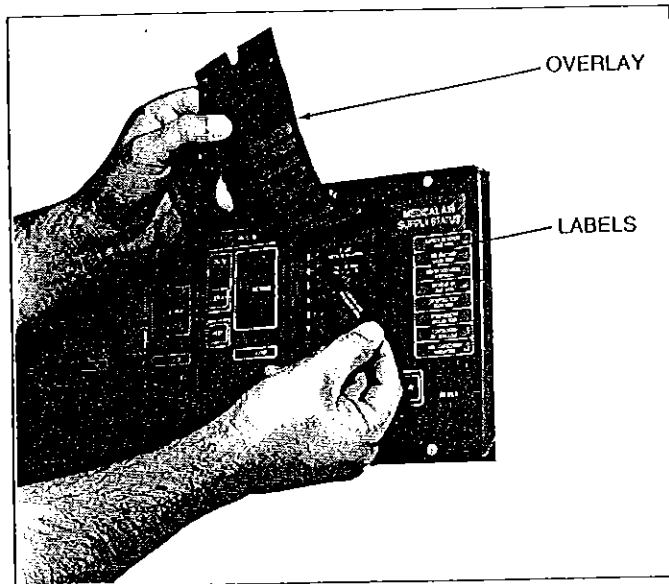

FIG. 13 — LABELING THE MODULES
2. The overlay for each module adheres only at the top and may be lifted to apply gas service identification labels, PSI or mm Hg labels behind the view windows for each module (See Fig. 13). The 8-Signal Module is similarly labeled with the pre-printed, self-adhesive labels provided. Double sided tape is provided at the bottom of the module. The installer is to remove the protective cover then press down overlay.